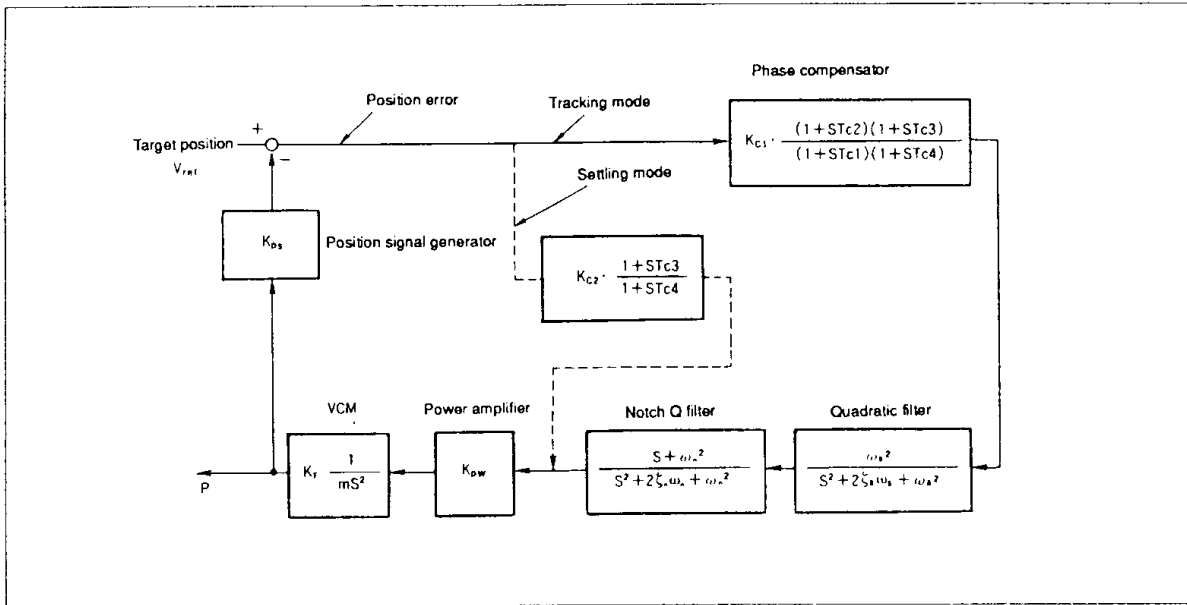

Figure 1 Track Feedback Loop
**Track Following:** Figure 1 shows the feedback loop for tracking. The loop holds the position error at zero by using a quadratic lowpass filter, notch filter, and lead/lag phase compensation to eliminate resonance from VCM mechanical vibrations.
state as quickly as possible, the IC increases the bandwidth by switching a filter (shown with dotted lines in figure 1) into the control loop.